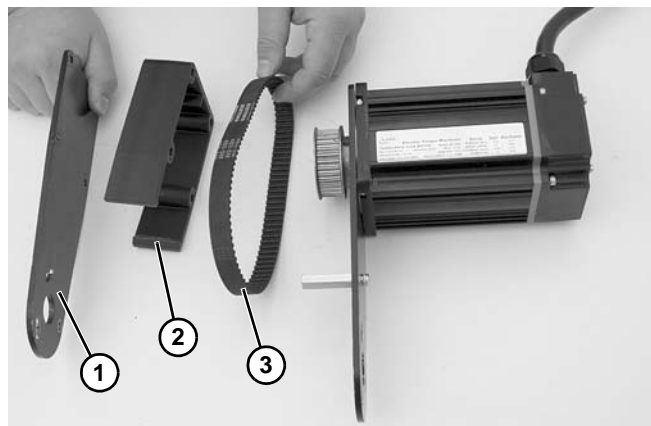

Figure 26
9. Remove front plate (**Figure 26, item 1**), lower guard (**Figure 26, item 2**), and timing belt (**Figure 26, item 3**).